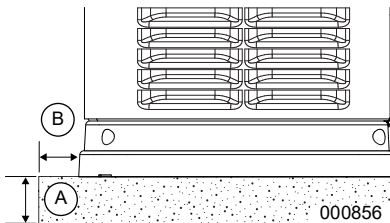

Figure 3-4. Pea Gravel or Crushed Stone
See Figure 3-4. Prepare a rectangular area approximately 5 in (127 mm) thick (A) and approximately 3 in (76.2 mm) longer and wider (B) than the footprint of the generator on all sides when using pea gravel or crushed stone.